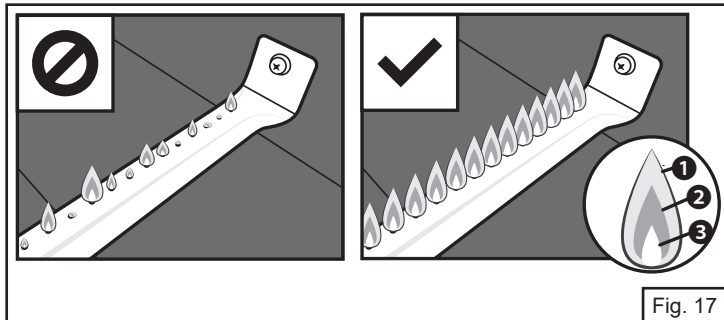

Fig. 17
(Fig. 17) Healthy flames might have a few flickers of yellow color ①, then a dark blue color ② vibrant blue by the burner tube ③.